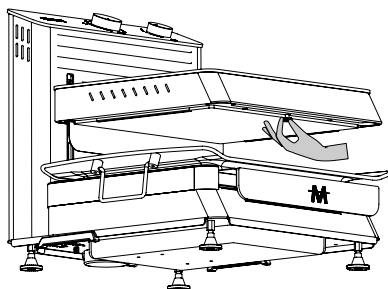
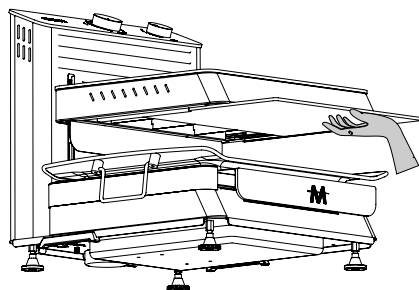

Figure 19
Figure 20
- To clean the filament protection glass, remove the glass retaining pins by turning them clockwise (Figure 19). Then separate the filament protection glass from the product by dragging it with the help of the grooves (Figure 20).